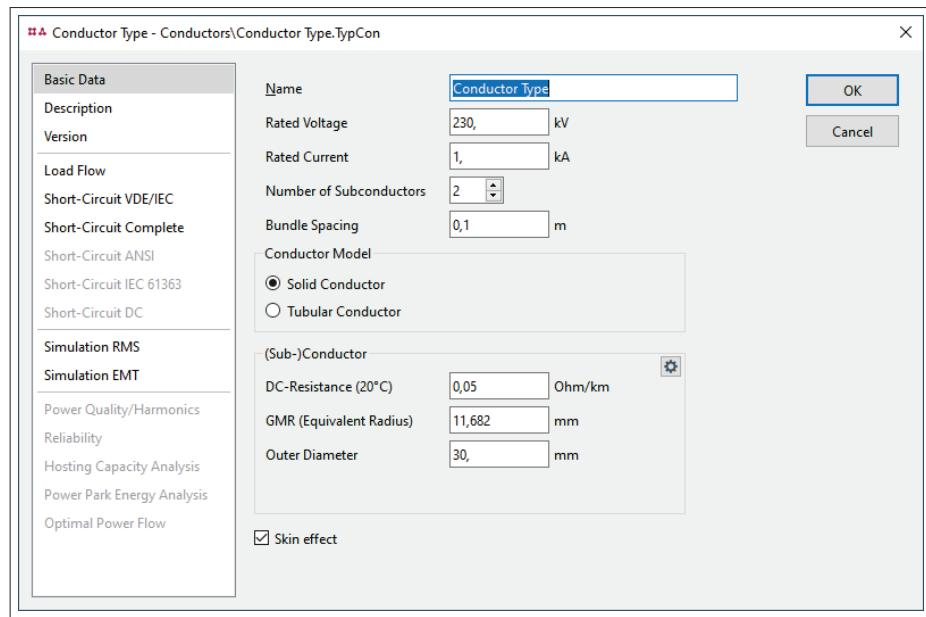

Figure 11.3.4: Conductor Type (*TypCon*)
5. On the edit dialog of the conductor type, shown in figure 11.3.4, the rated voltage and current, number of subconductors, model and measurements should be defined.